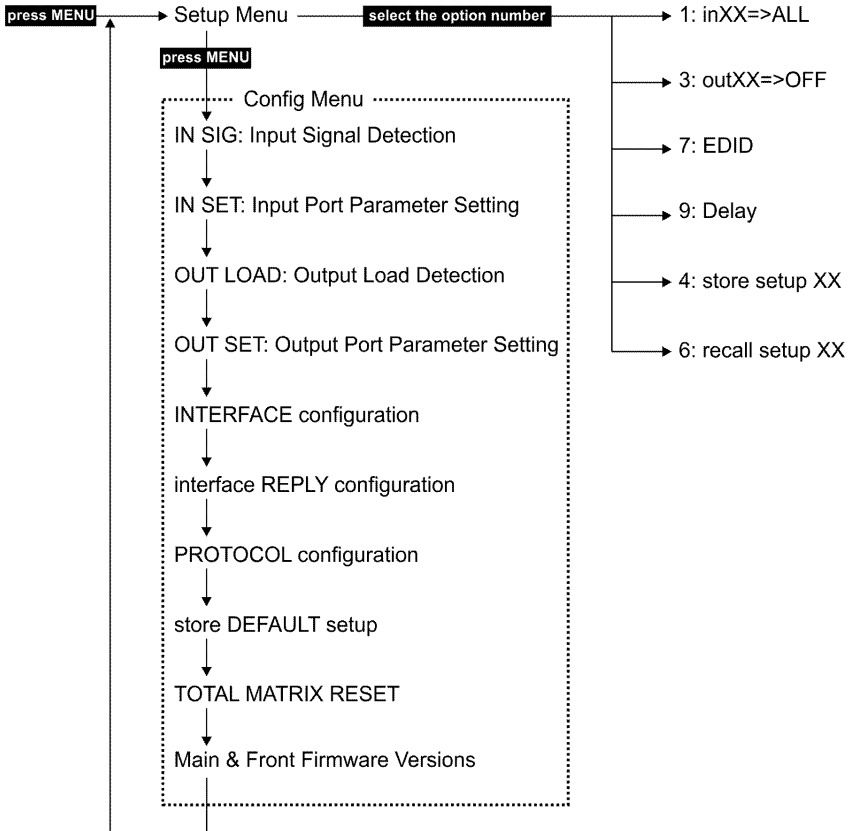

Figure 13: Menu Tree
- Figure 13 shows the navigation through the menu options.